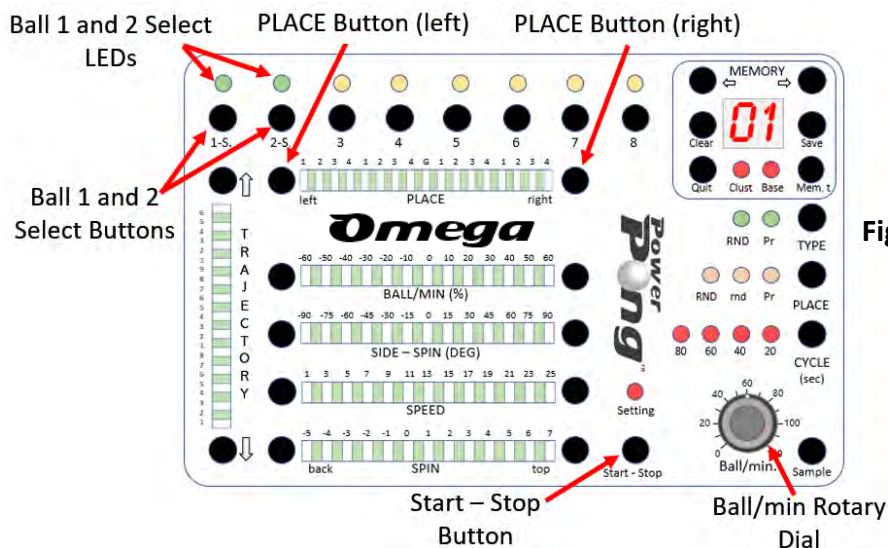

Figure 4-1
inches, an adjustment is recommended. Perform the following steps to check for proper adjustment. See Figures 4-1 and 4-2.
2. The Ball Select LED for Ball 1 will be flashing. Press the left PLACE button **twice** so that Ball 1 will be delivered to the left of the centerline. (Figure 4-1) The LED under the “3”, two positions left of the “G” on the PLACE LED Display must be lit.
3. Press the Ball Select Button for Ball 2. The Ball Select LED for Ball 2 will start flashing. Press the right PLACE button **four times** so that Ball 2 will be delivered to the right of the centerline. (Figure 4-1) The LED under the “2”, two positions right of the “G” on the PLACE LED Display must be lit.
4. Set the Ball/min rotary dial to 25. (Figure 4-1)